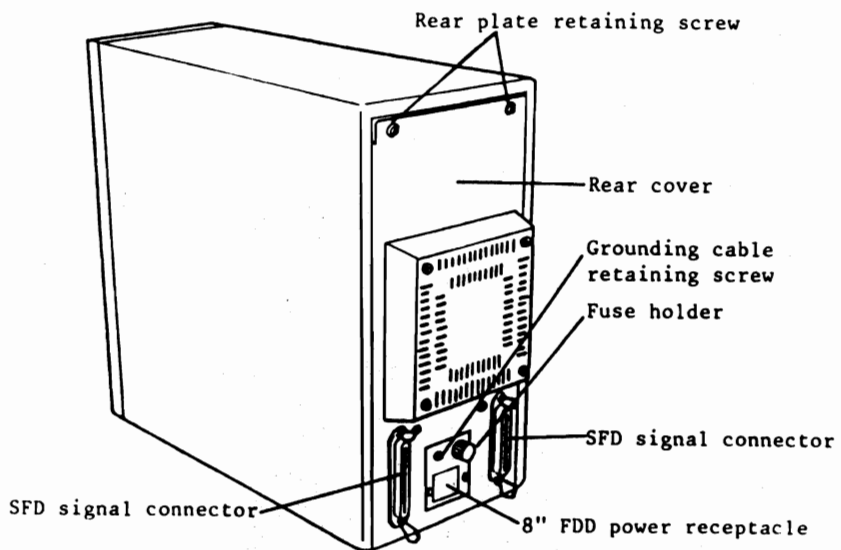

Fig. 3.4.2
- (1) Removal procedure of housing plate
- ① Insert the shipping sheet 8" into YD-180.
- ② Remove two retaining screws (Fig. 3.4.2) from rear cover.